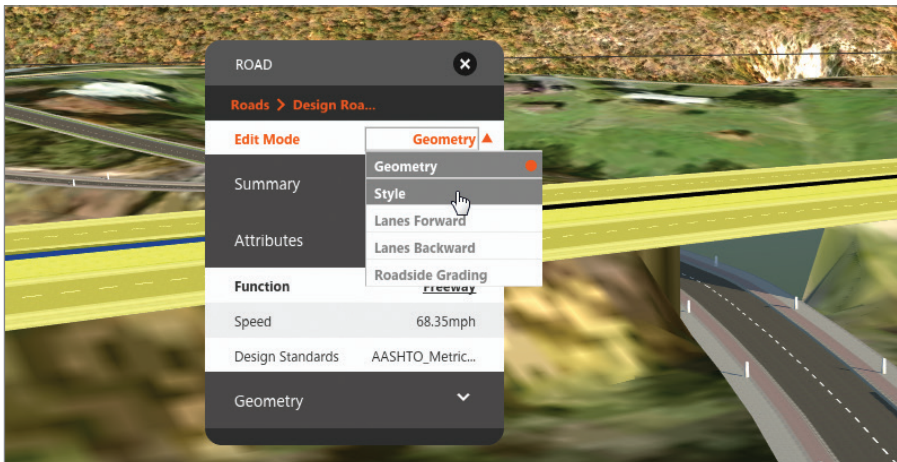

FIGURE 2.18 Choosing Style for Edit Mode
6. Click the link next to Edit Mode and choose Style, as shown in Figure 2.18.